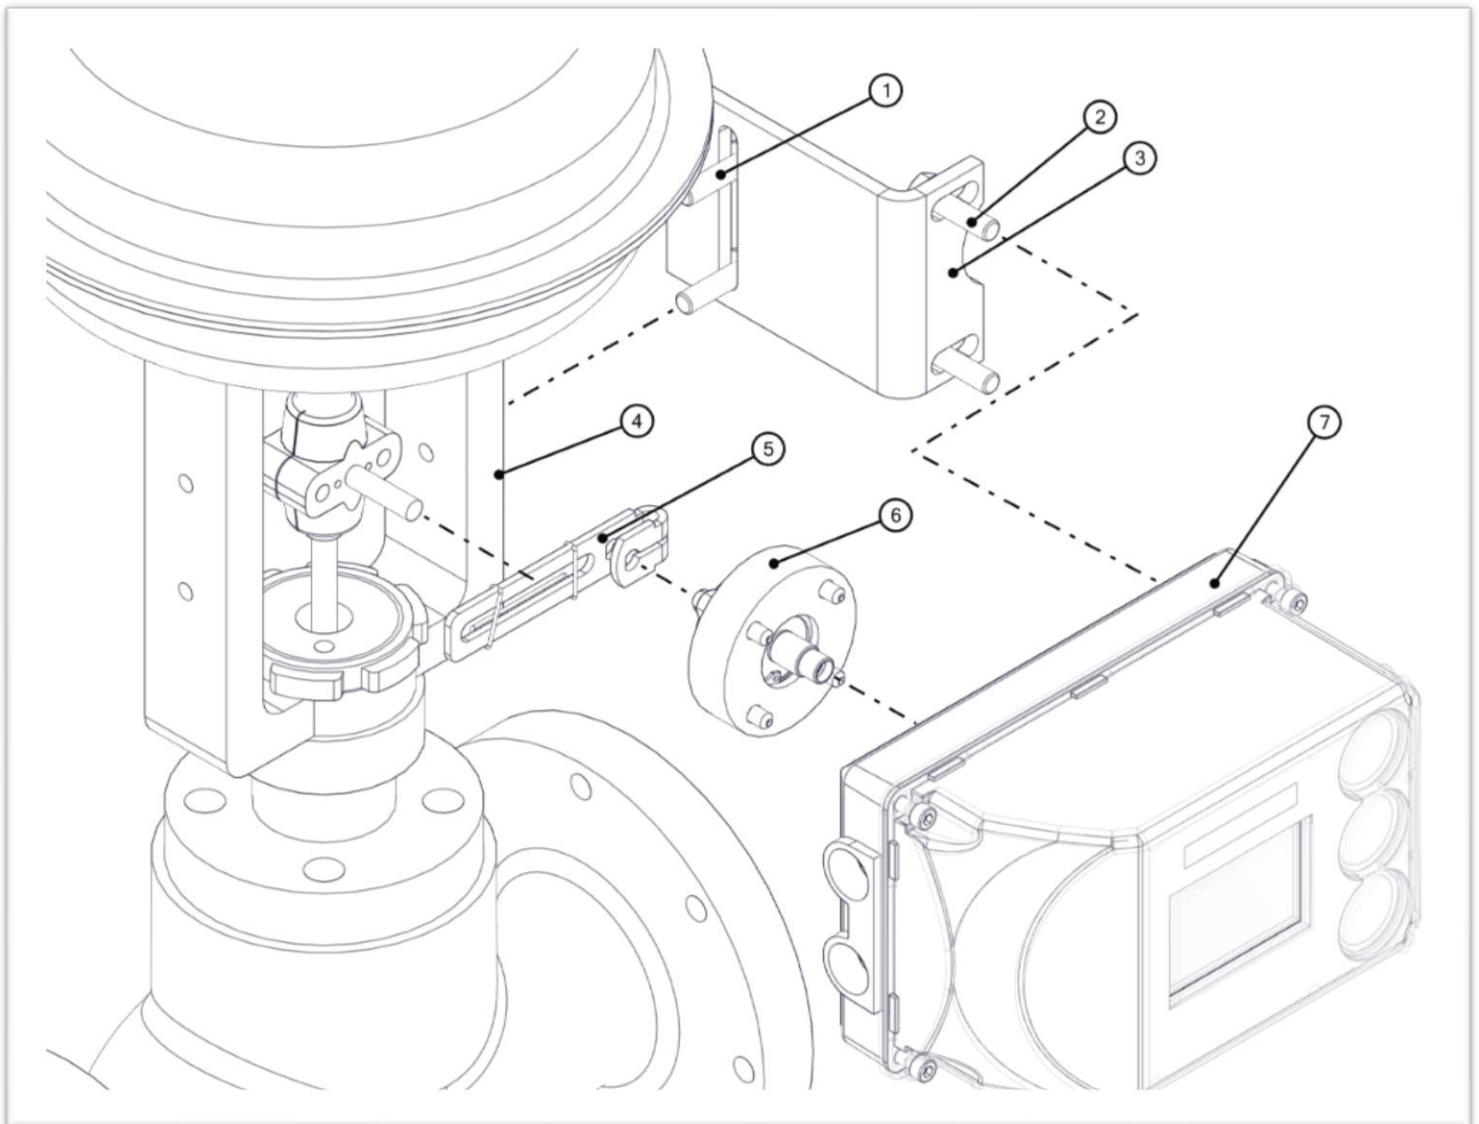

Figure 9: Mounting of positioner with bearing assembly on a control valve
- The figure 9 below gives a detailed and labelled (refer table 4) view for mounting the positioner with the bearing and shaft assembly on a control valve.